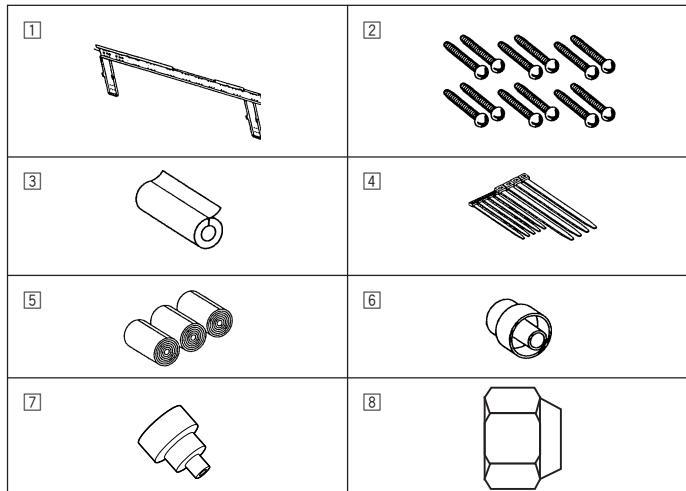

Fig. 3-3
■ PKFY-P18/P24/P30NFMU-E (Fig. 3-3)